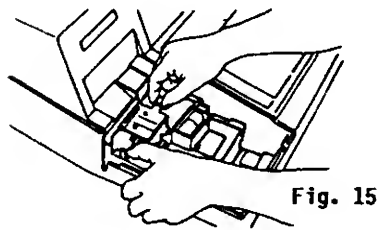
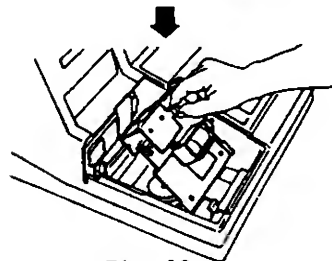

Fig. 15
Fig. 16
3. Open the Cutter Block by pulling it upward while pressing the leftside lever outward. (Fig. 15 and Fig. 16)